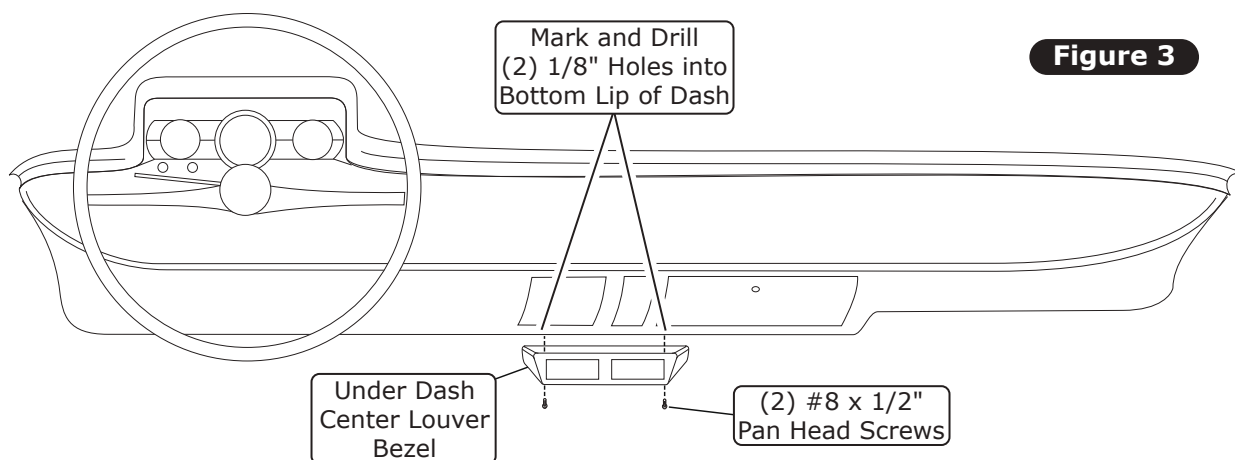

Figure 3
1. Place the under dash center louver bezel under the dash in the desired location. Using the louver bezel as a template, mark and drill (2) 1/8" mounting holes into the bottom lip of the dash (See Figure 3, below).
2. Secure the louver bezel under the dash using (2) #8 x 1/2" pan head screws (See Figure 3, below).
3. Insert (2) lengths of 2 1/2" duct hose (See Duct Hose Routing, Page 37, for duct hose lengths) through the back of the louver bezel (See Photo 2, below).
4. Attach the (2) duct hoses to the hose adapters on the (2) louvers (See Photos 3 & 4, below).
5. Insert the (2) louvers into the under dash center louver bezel, and insert the (2) 1/2" plastic caps into the (2) holes on the bottom of the bezel (See Photo 5, below).